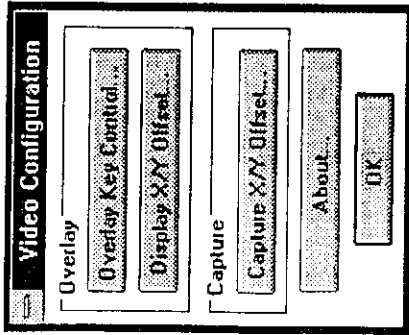

Figure 3-22.
4. CLICK on the "Adjust Colors" button to make adjustments of brightness, contrast, saturation and hue. CLICK on "Configure Video" button to make adjustments on Overlay Key Control, Display X/Y Offset, and Capture X/Y Offset (see Figure 3-22).